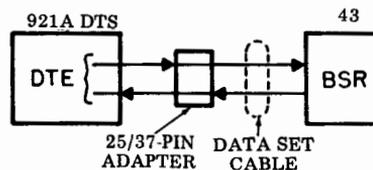

Fig. 10—921A — Connections
- (d) Disconnect the controller cable from the data set and connect it to the 921A Data Term (DTE) connector using the 25-pin to 37-pin cable adapter provided with the 921A DTS. See Fig. 10.